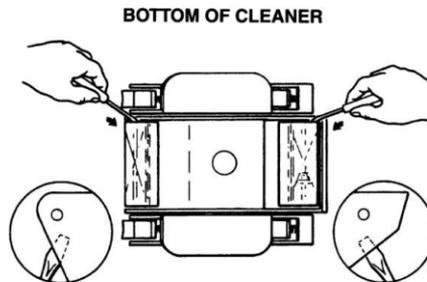

Figure 11
- Remove the front and rear flaps from your Hayward Blu cleaner by inserting a small flat screwdriver between the flap and the lower body near the pivot point of the flaps (See Figure 11).